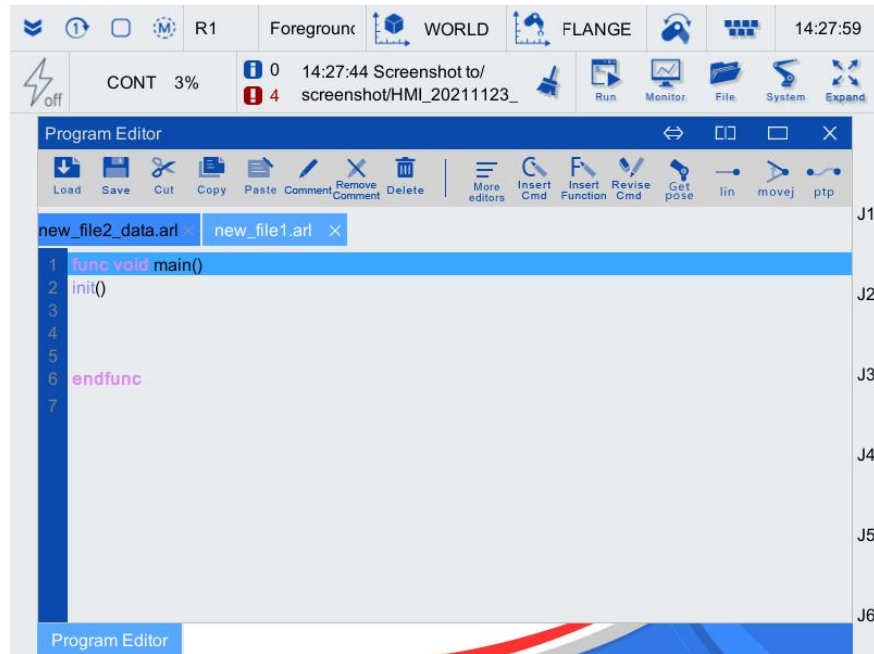

Figure 4-2 Program editor
Step2. Double click the file to open the program editor. As shown in Figure 4-2.